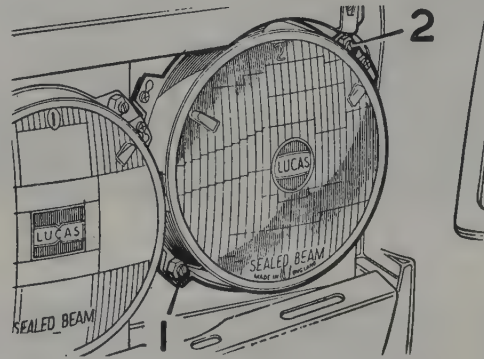

Fig. 10.25. Headlamp adjustment screws (1) horizontal (2) vertical
- 1 Due to the special equipment, the pair of twin beam headlamps should be adjusted by your Rover dealer. The alignment procedure for twin beam headlamps is not the same as that for single beam systems and if adjustment is attempted it will give unsatisfactory results. In an emergency, the headlamp units can be adjusted individually by means of the two screws shown in Fig.10.25.